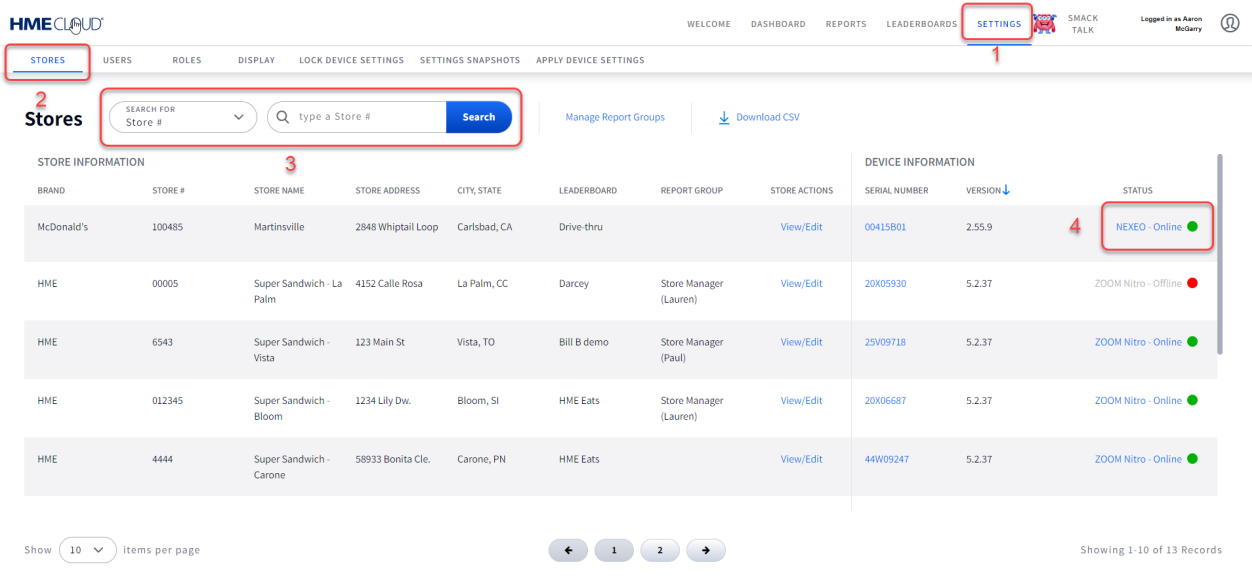
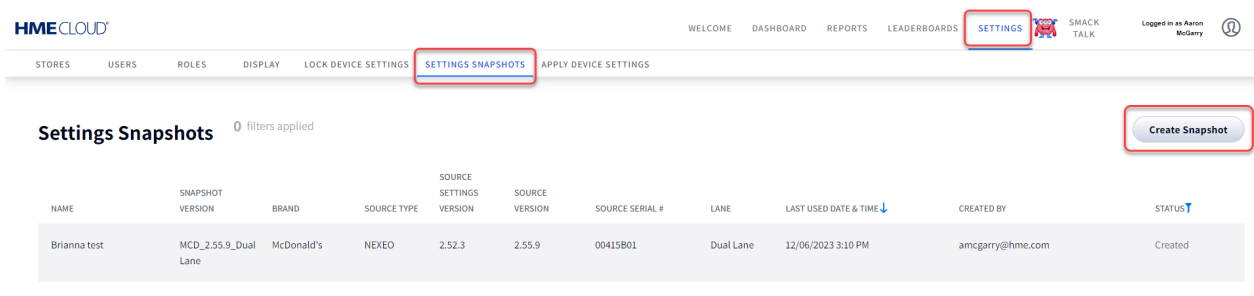

Fig. 8.4
Fig. 8.6
2. The SETTINGS page opens and defaults to the STORES tab (Fig. 8.4).
Copy or make a note of your device’s serial number (found in the Serial Number column; see Figure 8.4). From the SETTINGS menu, select the SETTINGS SNAPSHOT tab. Then click the Create Snapshot button on the right of the page. Before creating a new snapshot, first create a snapshot of your current configuration and give it a unique identifier in the NAME field. For example, in the NAME column of Figure 8.6, one snapshot named “Brianna test” already exists.